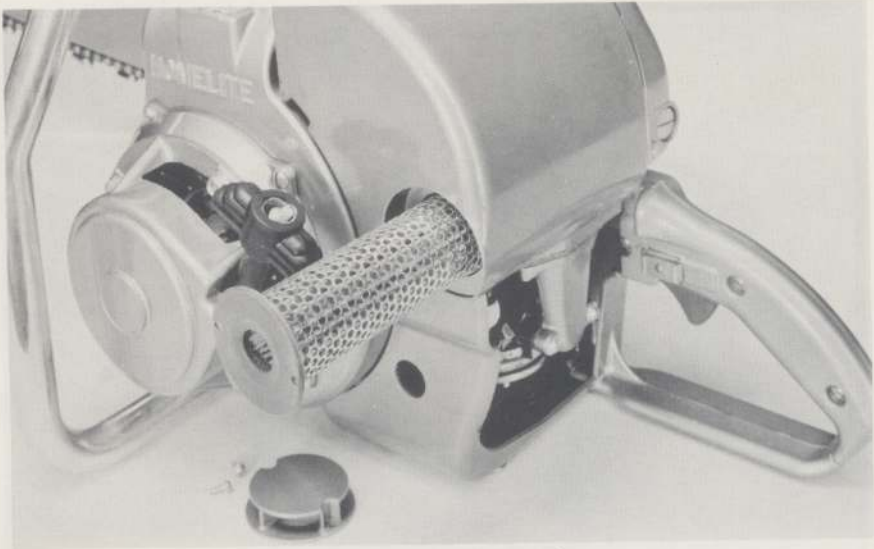

Figure 12—Changing Air Filter
- (1) Occasionally reverse the position of the guide bar top-for-bottom on the saw. This will distribute the wear on both sides of the bar.
- (2) Check bar rails for uneven wear . . . restore uneven rails to even height by grinding the high rail. However, if both rails are worn at any point so the chain hits bottom in the groove, either replace the bar or repair by grinding the groove deeper. After grinding, remove all burrs and rinse bar in solvent to remove abrasives.
5. MAINTENANCE AND ADJUSTMENT OF ENGINE**a. Air Filter (See figure 12)**